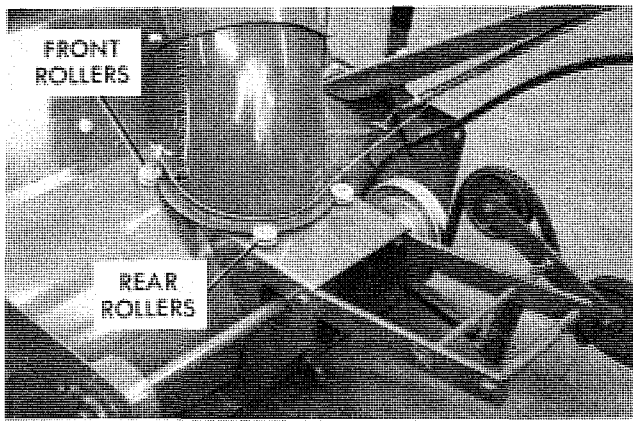

Figure 1
1. Install the mounting frame assembly by inserting the end with the four bolt holes into the blower housing frame. The arms should extend upward from the blower housing as shown in figure 1. Use the bolts and nuts provided to secure.
2. The shroud assembly is held by four rollers on top of the blower housing as shown in figure 1. To install the shroud, loosen and slide the two rear rollers back, fit the collar of the shroud into the front roller grooves, and move the rear rollers forward to fit snugly against the collar. Tighten the bolts, making sure the shroud rotates freely.